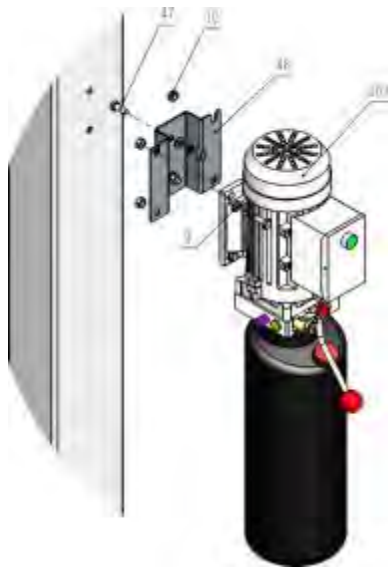

Fig.31
2. Install motor fixing bracket (See Fig. 31)